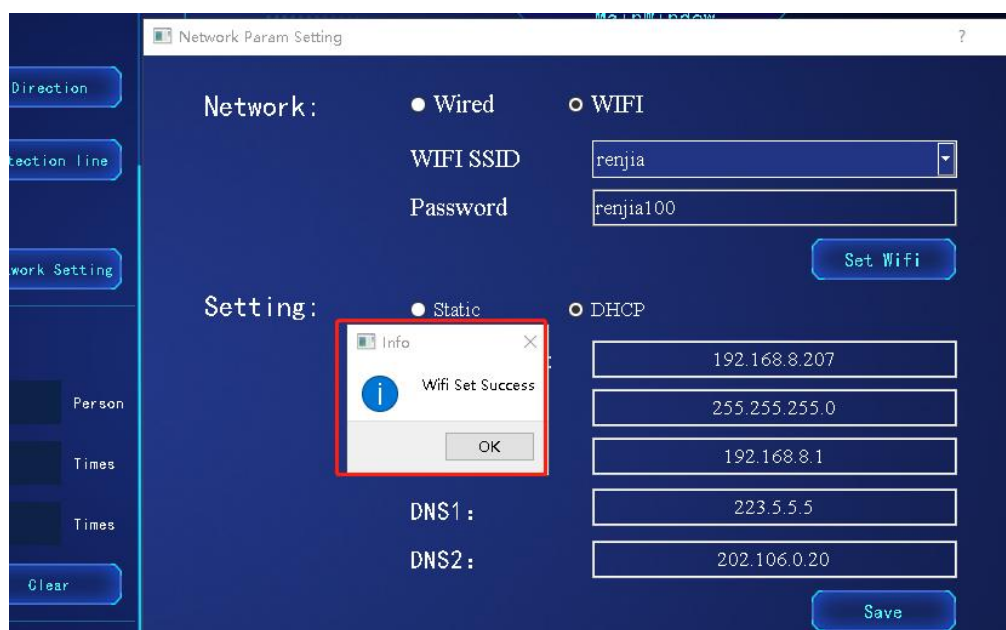

Figure 2-51 Example of successful WIFI verification
• After about 10 seconds, a wifi setting result prompt box will pop up, as shown in Figure 2-51. If the verification is successful, you can go to the next step, otherwise check whether the wifi password is correct and reset it.